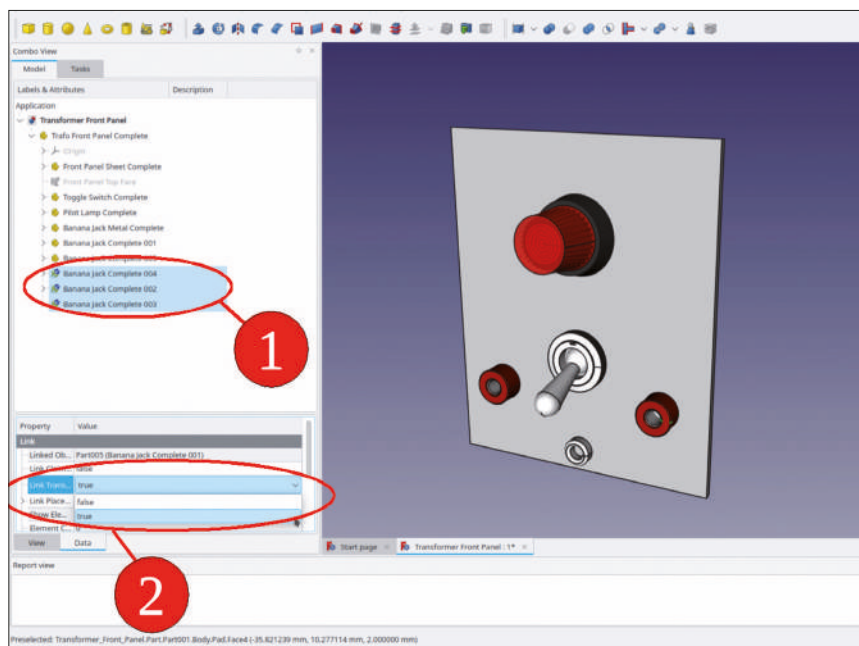

Figure 9-18
8. In the tree view, mark all the new banana jack link objects. In the property list, set their 'Link transform' property to True (Figure 9-18). Now all the positions can be specified as 'Link placement' parameters relative to the linked object 'Banana Jack Complete 001'.